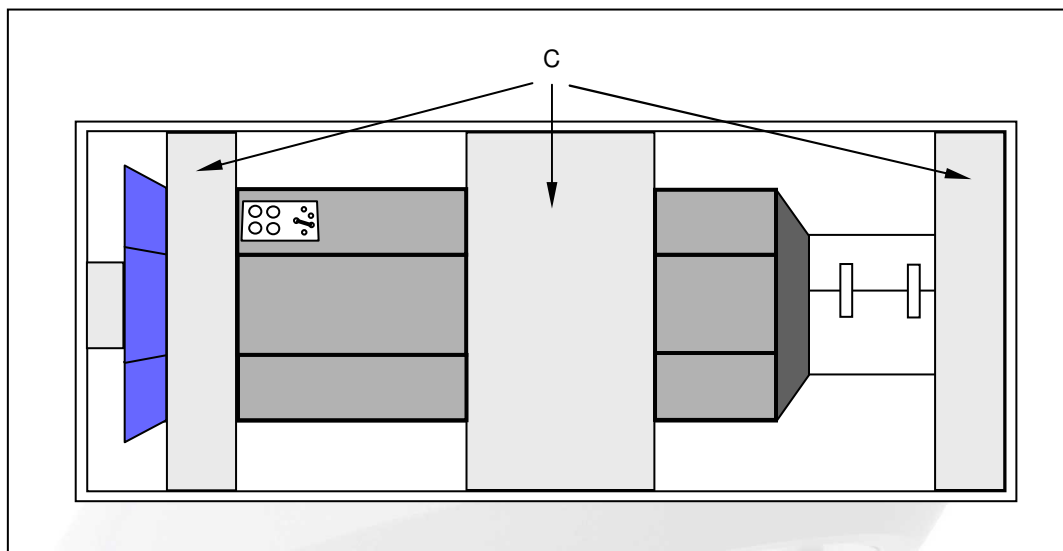

Figure 2. Carbon Mk IV Shipping Carton
2. Remove the three foam packing pieces C in figure 2.